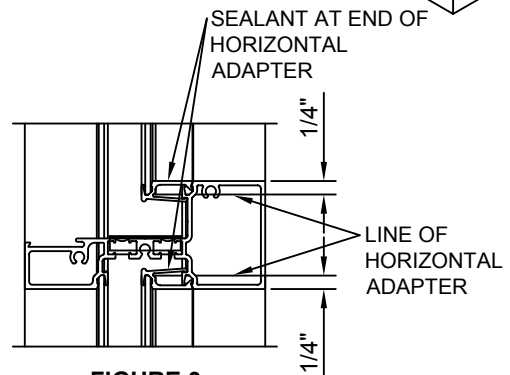

FIGURE 3
STEP 4: Snap vertical adapters into glazing reglets of frame. Adapter should be positioned to allow sealing of horizontal adapter to the vertical adapter (approximately 1/4" projection into horizontal pocket, **Figure 3**)